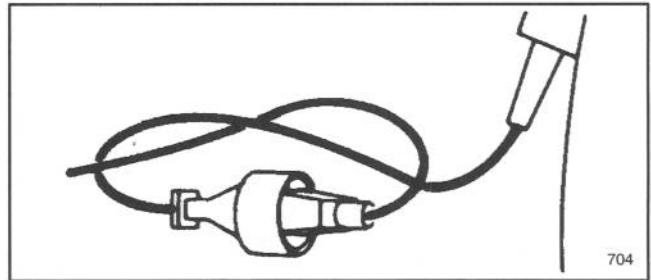

Figure 18
1. Secure the power supply cord and a suitable extension cord as shown in Figure 18.